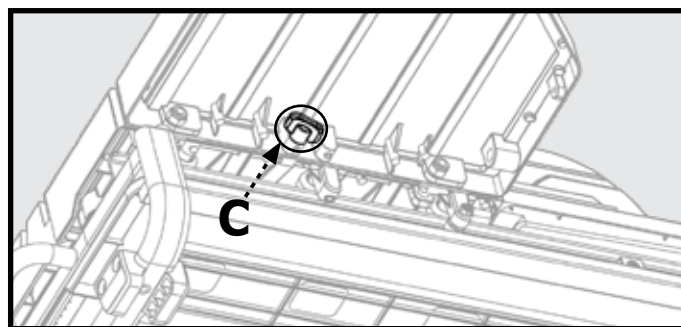

Figure 13
3. Secure the Table Extension to the Worktable by tightening the Thumbscrew located under the Table Extension as shown in Figure 13.